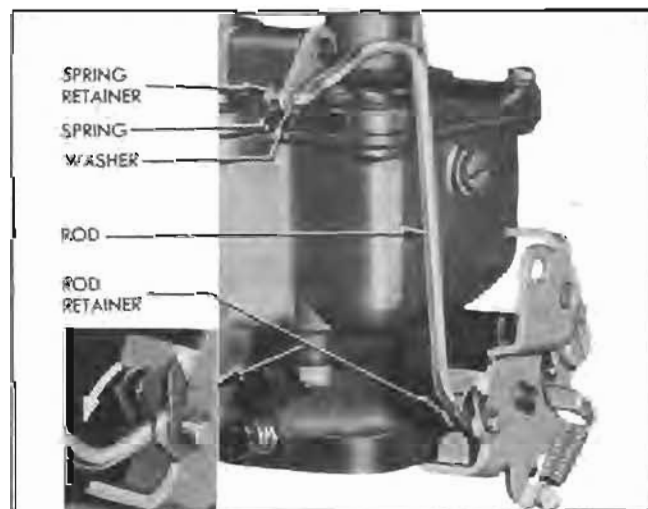

Figure 3-43—Installation of Throttle Connector Rod
20. Place throttle connector rod retainer over throttle shaft lever at connector rod hole, insert end of rod through retainer and lever holes, and snap retainer into place on rod. Connect upper end of rod to pump operating countershaft arm, using flat washer on outer side of arm with spring and retainer on inner side. See figure 3-43.